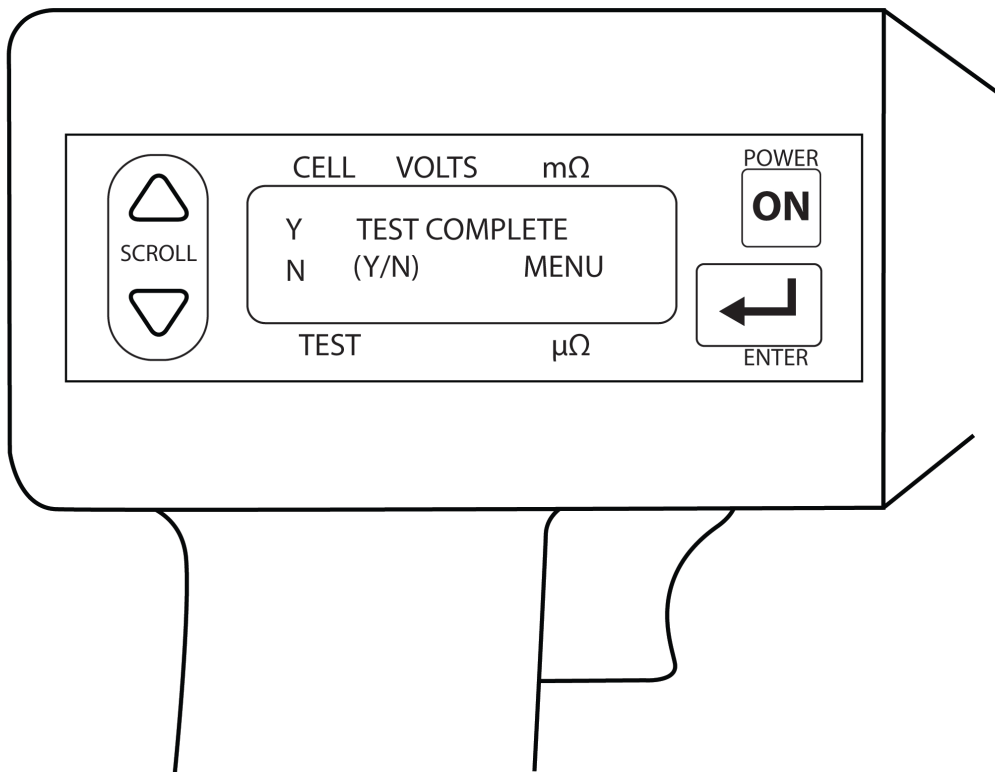

Figure 4-9: Receiver Menu
1. Suppose that the following Menu is displayed on the screen as shown in *Figure 4-9*.